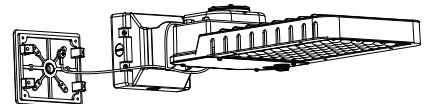

FIG. 18
4. Fix one end of the metal cord to the bracket back plate with a screw, and attach the other end of the cord to the fixture (see **FIG. 18**). This is for safety while making wiring connections and can be removed afterwards.